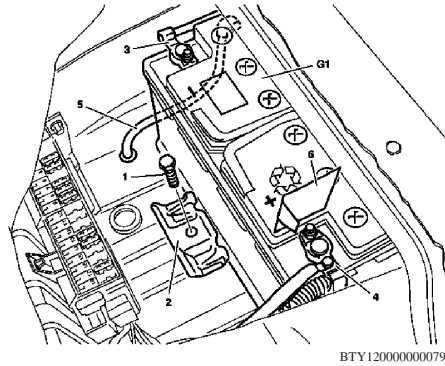

Fig. 2 Battery removal
4. Disconnect ground cable (3) at battery, **Fig. 2**.
5. Disconnect positive cable (4), **Fig. 2**.
6. Detach vent pipe (5) at battery (G1), **Fig. 2**.
7. Remove battery (G1), **Fig. 2**.